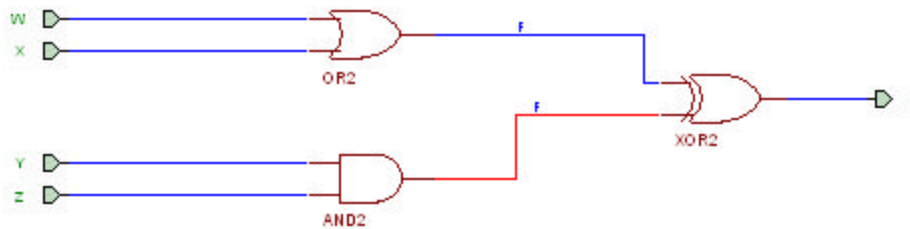

Figure 3
* Two nets on the same level of hierarchy that you want to be distinct will actually be connected if you give them the same name. The circuit in Figure 3 will not work because both the OR gate and the AND gate drive the same net.